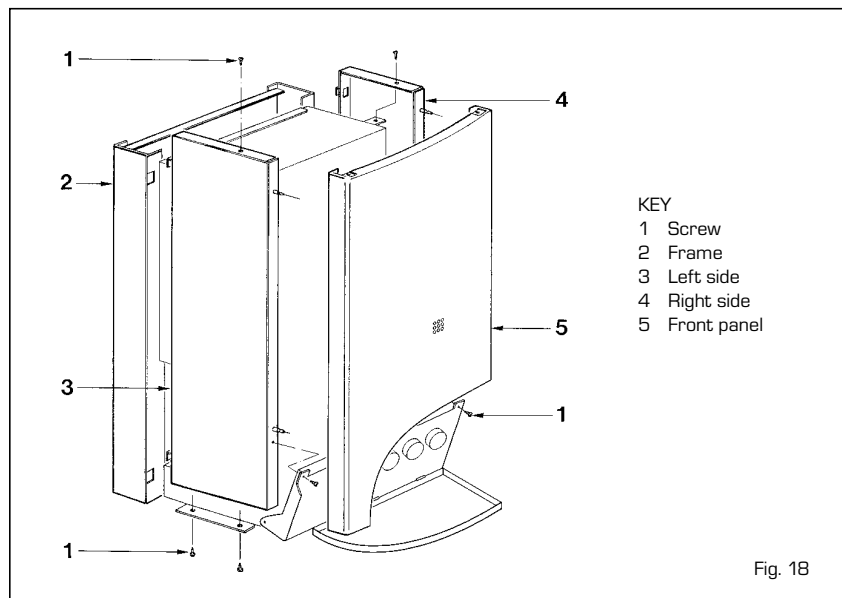

Fig. 18
4.3 SHELL REMOVAL (fig. 18)
For easy boiler maintenance the shell can be completely removed by following these instructions (fig. 18):